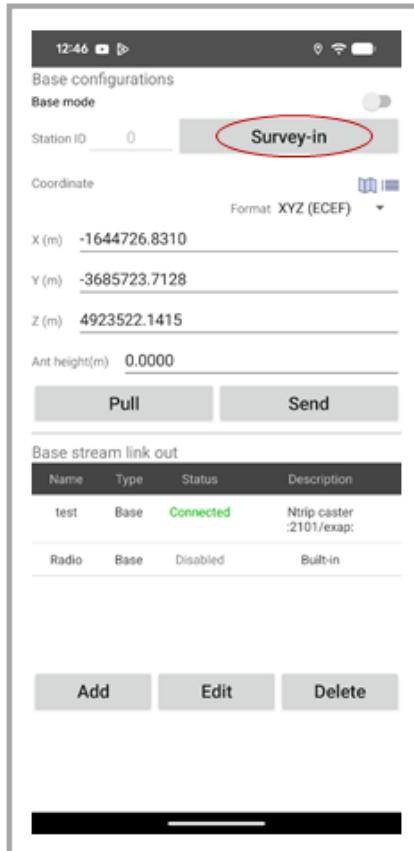

Figure 4-6 Survey-in
- (1) In the Anypos app, open or create a **Project**.
- (2) Navigate to the **Coordinate system** module. If you're using a custom local reference frame, set it here. If available, connect to an RTK base or CORS stream to enhance positioning accuracy. If not, the G1000 will fall back to SPP (Single Point Positioning) solution or SBAS based DGPS solution.
(3) Open the **Setup Base** module and click on **Survey-in** (Figure 4-6). The base station coordinates will be automatically measured and synchronized.